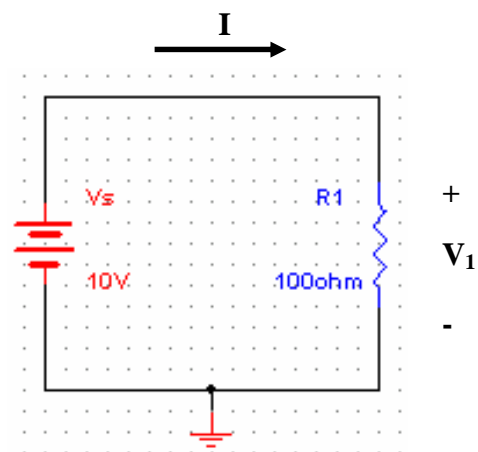

Figure 3: Verifying Ohm's Law
2. Build the circuit given in Figure 3. Set $V_s = 10V$ and $R_1=100\Omega$. Click **Simulation Switch** to run analysis. Record voltage ' V_1 ' across resistor R_1 by connecting a multimeter in parallel to it. Record the value of current ' I ' flowing through R_1 by connecting another multimeter in series to R_1 . Note down the values in Table 3. From the voltage current readings verify Ohm's law $V_1=R_1 I$. Considering multimeter reading as reference, calculate % error.